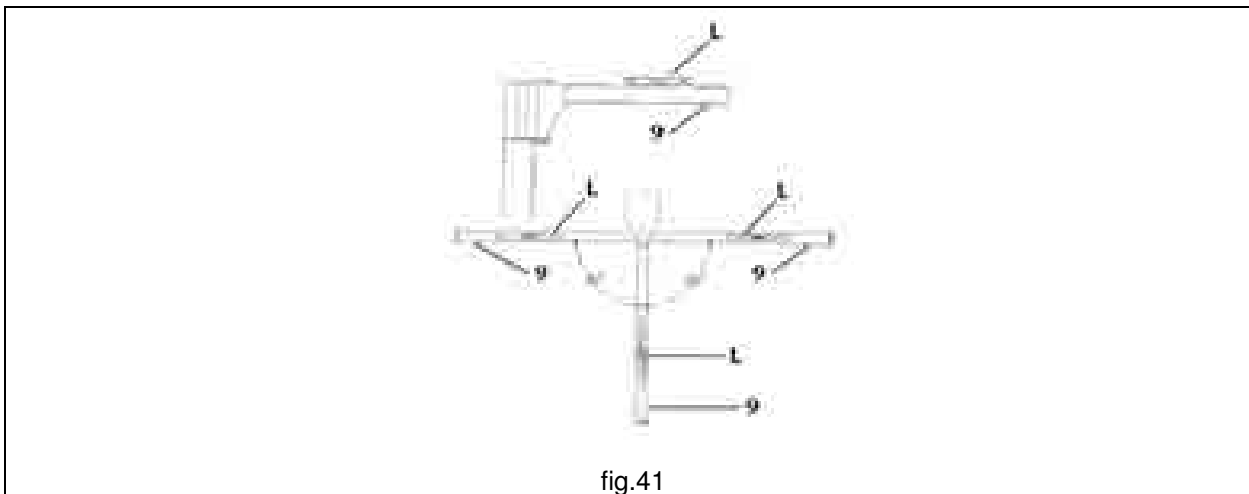

fig.41
8. Carry out the check of the planarity of the arm **9** with the help of a level **L**. Do this check by rotating the arm by 90° to the left and to the right (fig.41).